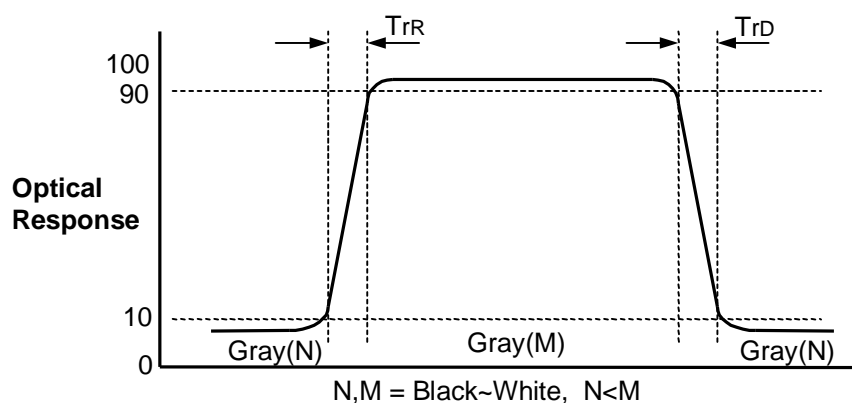

FIG. 11 Response Time
2. Response time is the time required for the display to transition from G(0) to G(255) (Rise Time, Tr_R) and from G(255) to G(0) (Decay Time, Tr_D). For additional information see the FIG. 11.